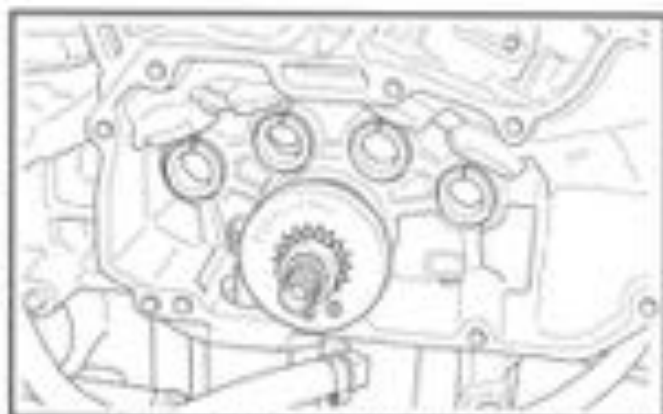

Figure 3-71. Crankshaft Locking Tool
- See Figure 3-71. Install CRANKSHAFT LOCKING TOOL (Part No. HD-41500) over pinion shaft. Install nut to pinion shaft, tightening to 35-45 ft-lbs (47-61 Nm) torque.